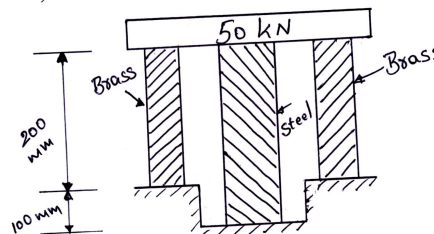

Fig.Q.2(b)
- 2 a. Derive the volumetric strain of a cylinder bar subjected to an axial load (P). (10 Marks)
- b. A steel rod of cross sectional area 1600mm^2 and two brass rods each of cross sectional area of 1000mm^2 together support a load of 50kN as shown in Fig.Q.2(b). Find the stresses in the rod. E for steel = $2 \times 10^5 \text{ N/mm}^2$, E for brass = $1 \times 10^5 \text{ N/mm}^2$ (10 Marks)